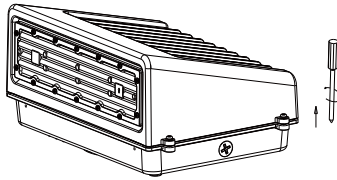

Fig. 2-1A
1. Take out the light, and loosen the screws on the cover and take apart the fixture by the screwdriver. Pull off the quick connect terminal vigorously. (Fig.2-1A&B)